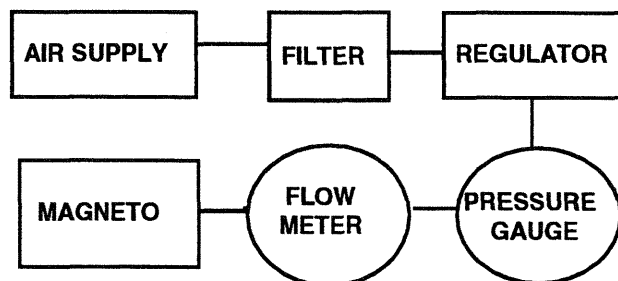

Figure 302. Pressurized Magneto Test Stand - Block Diagram
- (1) Install a sealed harness cover and gasket onto magneto. Apply 25-35 in. lb. torque to four attaching screws.
- (2) Install all applicable ground and retard terminals with sealing insulators.
- (3) For magneto P/N 10-500556-901 only, install B&D Tachometer Sensor P/N 0406-002 or P/N 0406-003. Use pointed tool to remove screen and cotton filter from sensor.
- (4) Connect magneto to Flow Test Stand as shown in Figure 302. Using dry, filtered air at 2.9 to 3.1 Psig, flow rate must be within the range 2.4 to 11.8 standard cubic feet per hour. If flow rate is below 2.4 SCFH inspect orifice for blockage. If flow rate exceeds 11.8 SCFH, discover and seal sources of leakage. Repeat test following any corrective procedures.